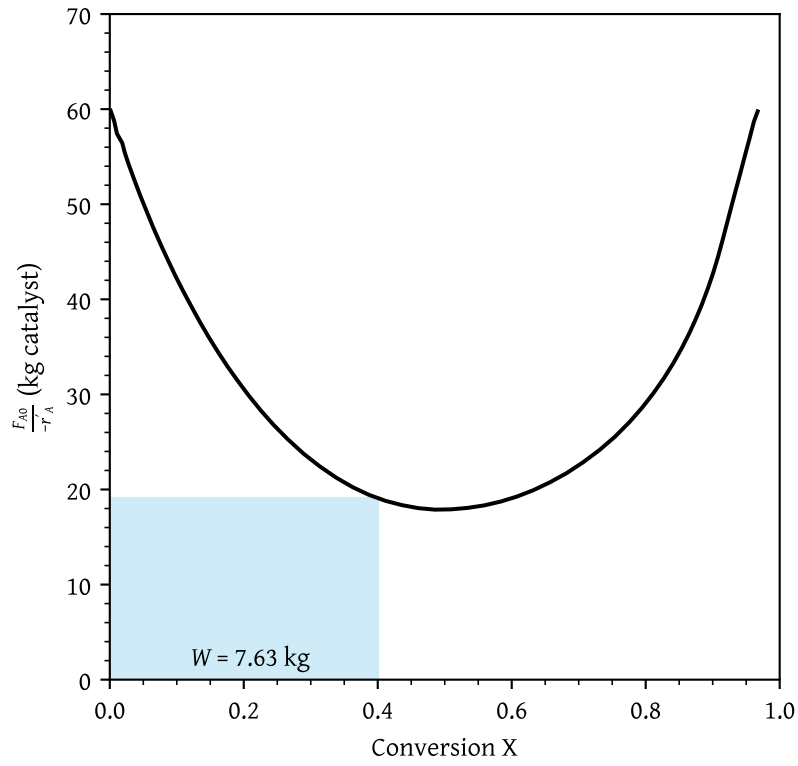

Figure 25: Catalyst weight for 40% conversion in CSTR
- What fluidized CSTR weight is necessary to achieve 40% conversion? (Figure 25)